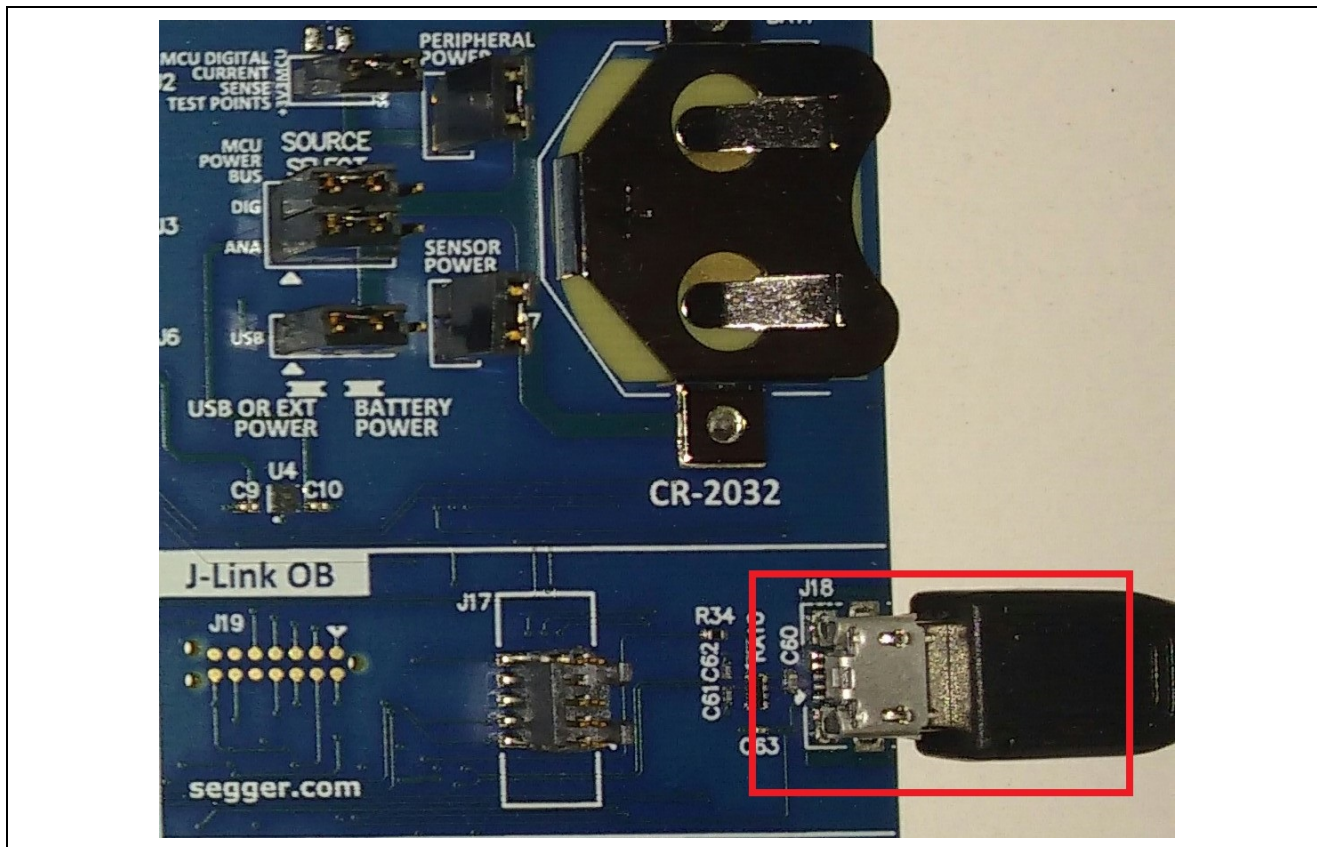

Figure 1. Power setup (top) and J-Link OB connection (bottom)
1. Connect the J-Link OB on J18 of the DK-S124 to the PC using a micro USB cable (Figure 1).